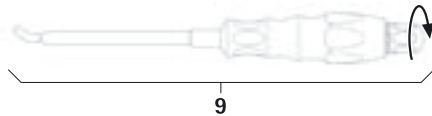

Fig. 15
- Mount rod insertion instrument 9, see Fig. 15.